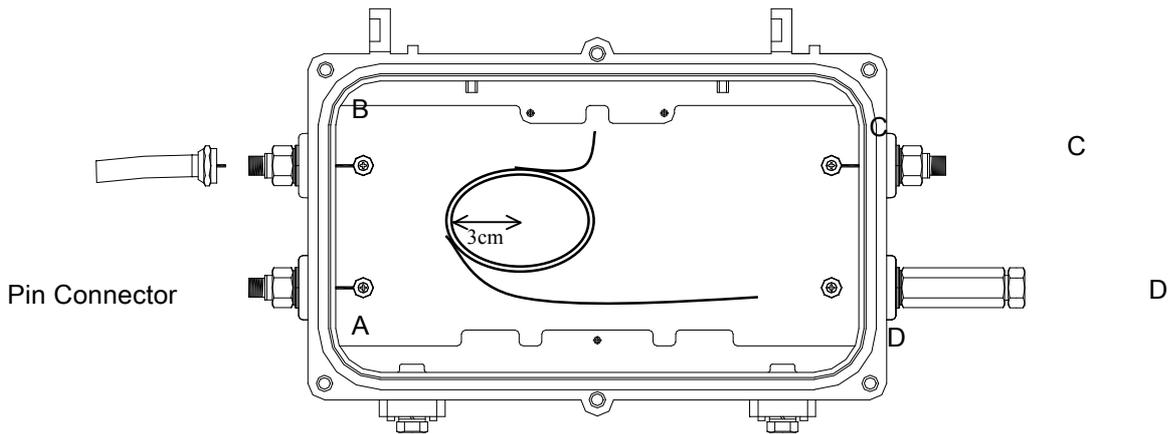

Figure 7. Fiber Cable Installation
2. Bring the fiber cable into optical receiver housing at port D, using a threaded waterproof sleeve fitting (see fig. 7).